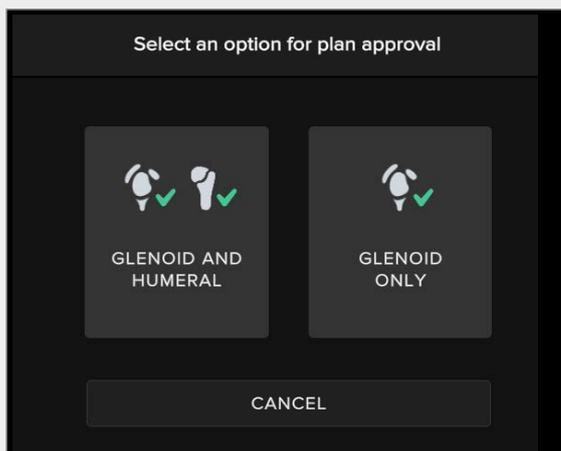

Figure 80. Plan Approval tab
- Clicking the “Approve” button opens a tab (Figure 80) in which surgeons may select to approve both the glenoid and humeral plan(s) or just the glenoid plan(s).